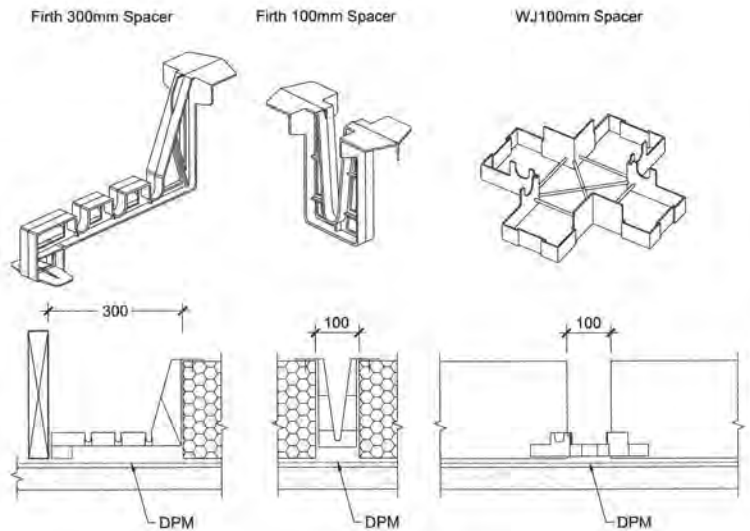

Figure 9 Spacer Details
Rib reinforcing steel shall be placed in the bottom of the internal ribs and supported in the correct position by the Firth or Wilton Joubert spacers (WJ). Figure 9 shows the detail of the Firth and WJ spacers, and Figure 10 shows a detailed section identifying how the steel is located in the spacers. The 300mm spacer shall be used for the 300mm wide internal ribs. These spacers ensure that cover to DPM below the base is greater than 45mm and cover to the exterior perimeter is 75mm.